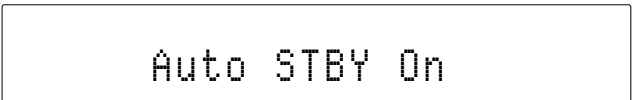

Figure 45
3. To re-activate the Auto Off Feature, press and hold in the ⏻ Power Push-button on the Remote Control for about 5-10 seconds, at which time the Front Panel Display indicates “Auto STBY On”. Refer to figure 45.